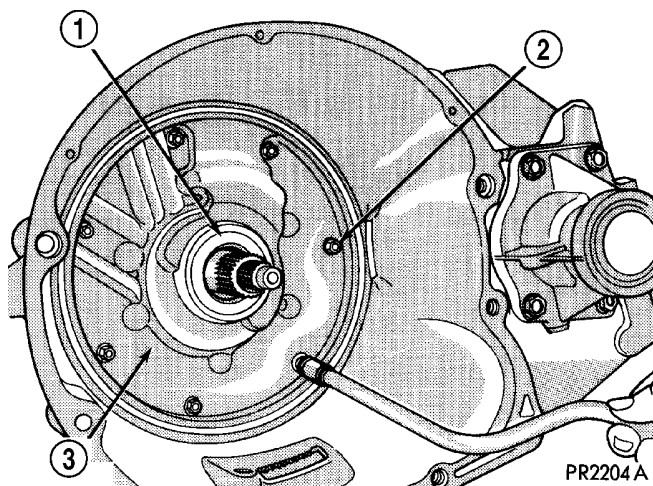

Fig. 26 Oil Pump Attaching Bolts
(26) Remove oil pump-to-transaxle case bolts (Fig. 26).